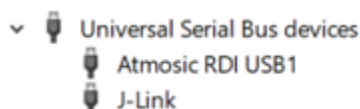

Figure 10 - Zadig Driver Installation Successfully
- Figure 10 - Zadig Driver Installation Successful